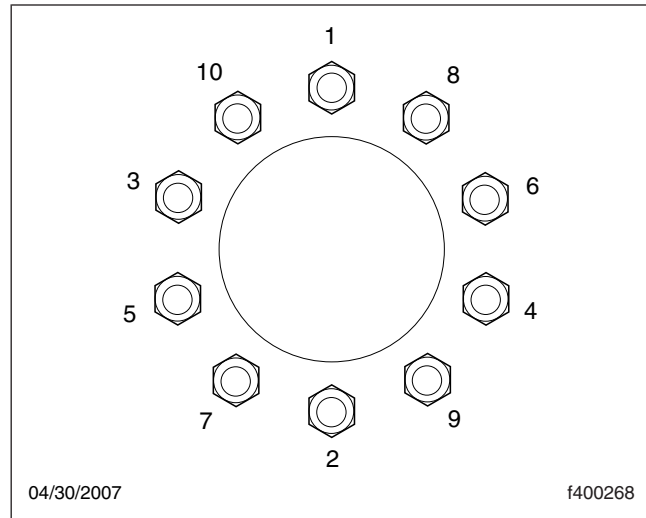
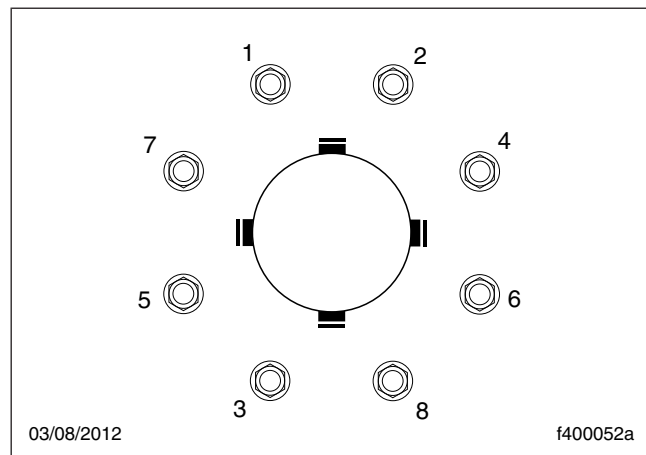

Fig. 23.4, Tightening Pattern, 10-Hole Wheels
Fig. 23.5, Tightening Pattern, 8-Hole Wheels
- 3.3 Make sure all wheel nuts are tightened. If tightening is necessary, use the tightening pattern in Fig. 23.4 or Fig. 23.5 to initially tighten the flange nuts to 50 to 100 lbf-ft (68 to 136 N·m). Then tighten the flange nuts to 450 to 500 lbf-ft (610 to 678 N·m).